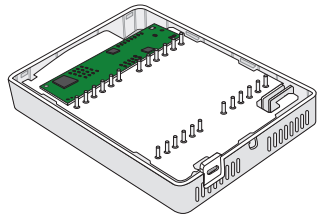

Figure 3
5. Gently press the Wi-Fi Module into the Room Controller's motherboard until it fits snugly in place (Figure 3).